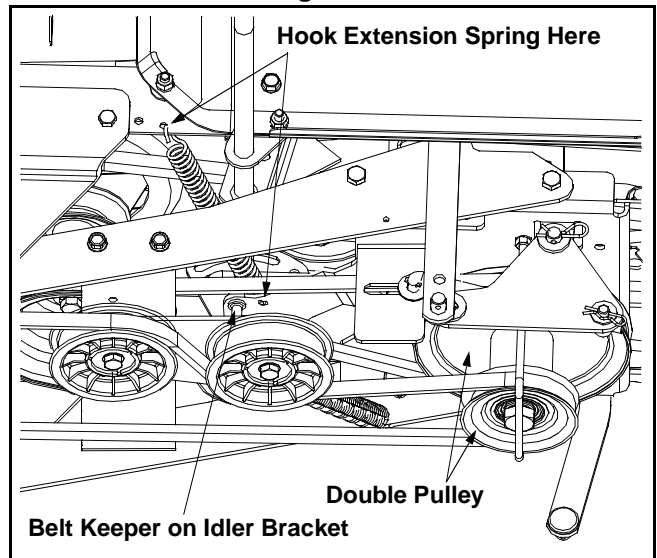

Figure 15
4. Hook one end of the extension spring provided into the hole on the left side of the undercarriage idler bracket's surface, just to the rear of the belt keeper. See Figure 15
5. Using a pair of vise grips, hook the other end of the extension spring to a hole in the tractor's left frame rail. See Figure 15.